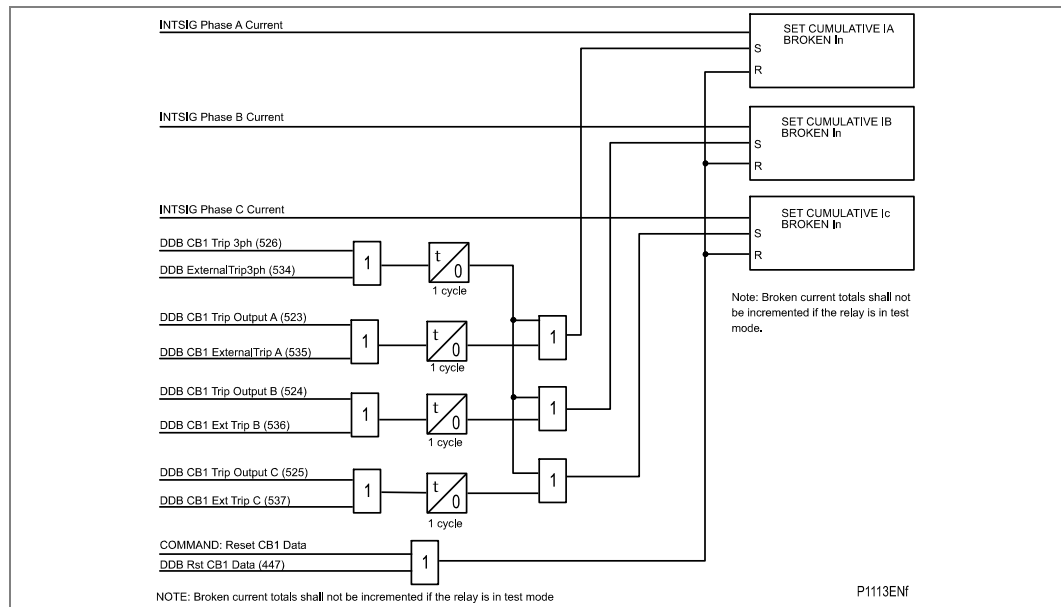

Figure 130 - CB1 condition monitoring – broken current
- Figure 130 - CB1 condition monitoring – broken current